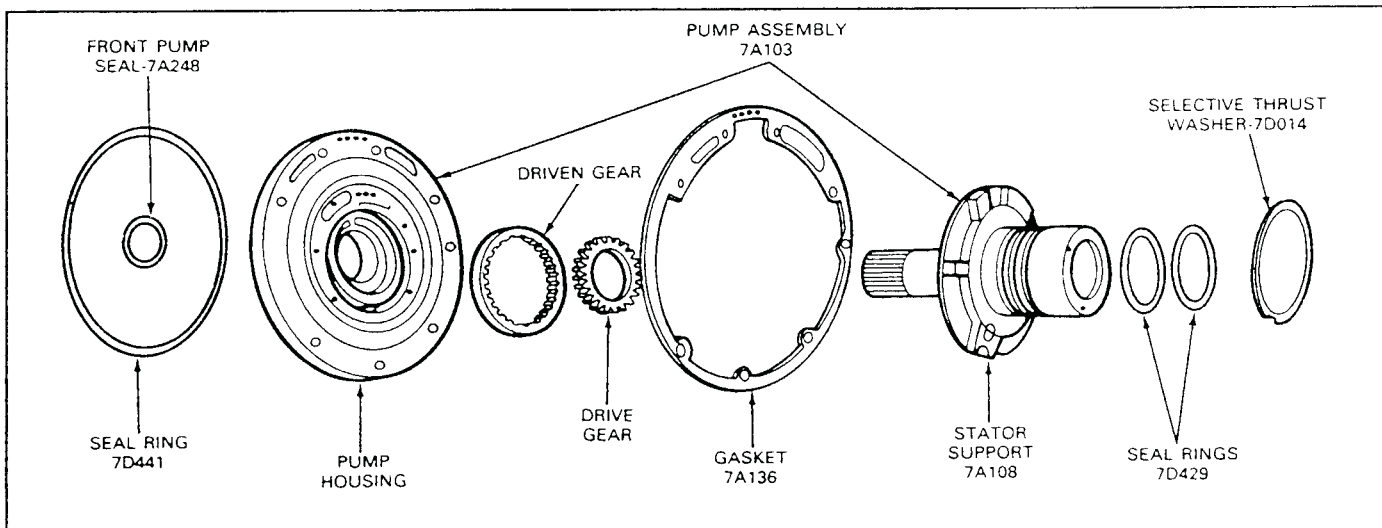

FIG. 36 Front Pump Disassembled
1. Remove the two seal rings and the selective thrust washer (Fig. 36).